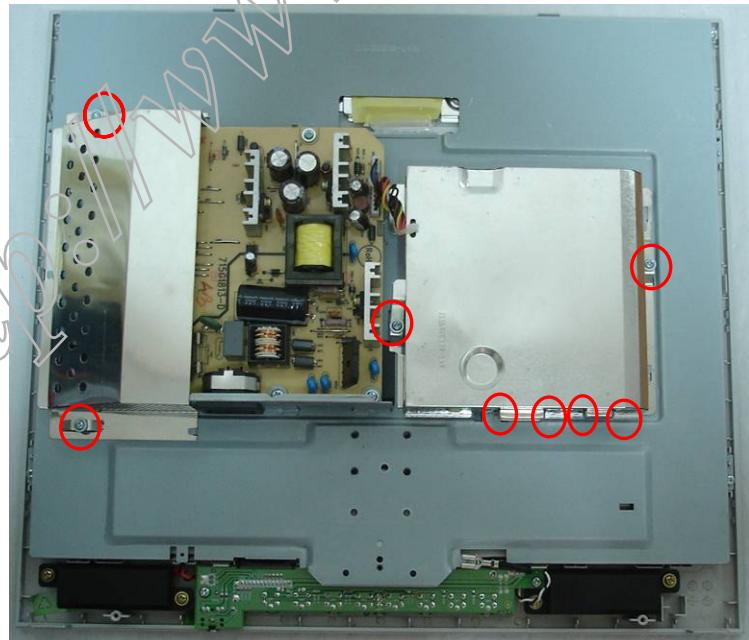

Fig.6
Step6: Unfasten the four screws on the hinge as Fig 6. then dismantle base stand from base column.
**6. Remove the shields of the main board and power board as Fig.6.**
Remove the 8 screws as Fig.6 to remove the shields.